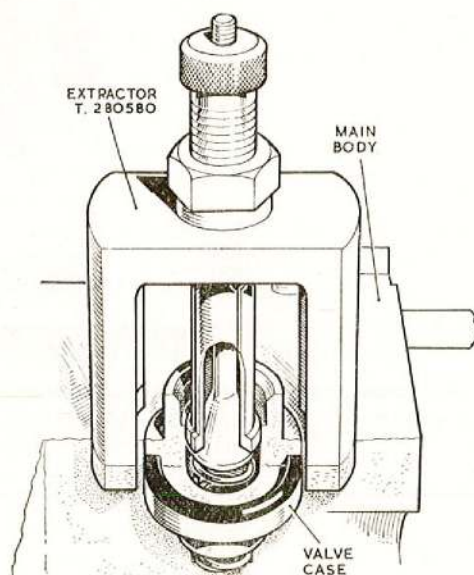

Fig. 2. Removing the n.r.v. case
12. This comprises a sealing ring, valve seat (22), shim washer (23), sealing ring, valve case and sealing ring (24), valve (25), spring and shim washer (26). Use the extractor T.280580 to remove the valve case, fig. 2.